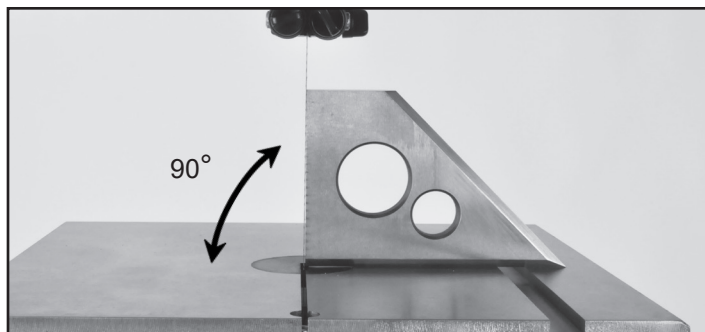

FIGURE 12
**NOTE:** Make sure that the table is not tilted left or right during this operation. Using a square, the table should be set 90° to the side of the blade. FIG. 12.